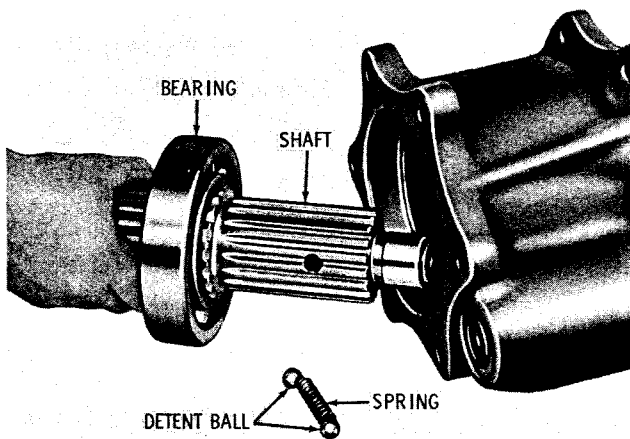

Fig. 6-2. Removing power takeoff shaft and bearing
(5) Remove the power takeoff shaft and bearing (fig. 6-2). When the shaft is removed, two detent balls and a spring are freed, remove these.
(6) Press shaft 22 (foldout 14) out of bearing 23. Remove snap ring 16, bearing inner race 17, and thrust washer 18 only if parts replacement is necessary.